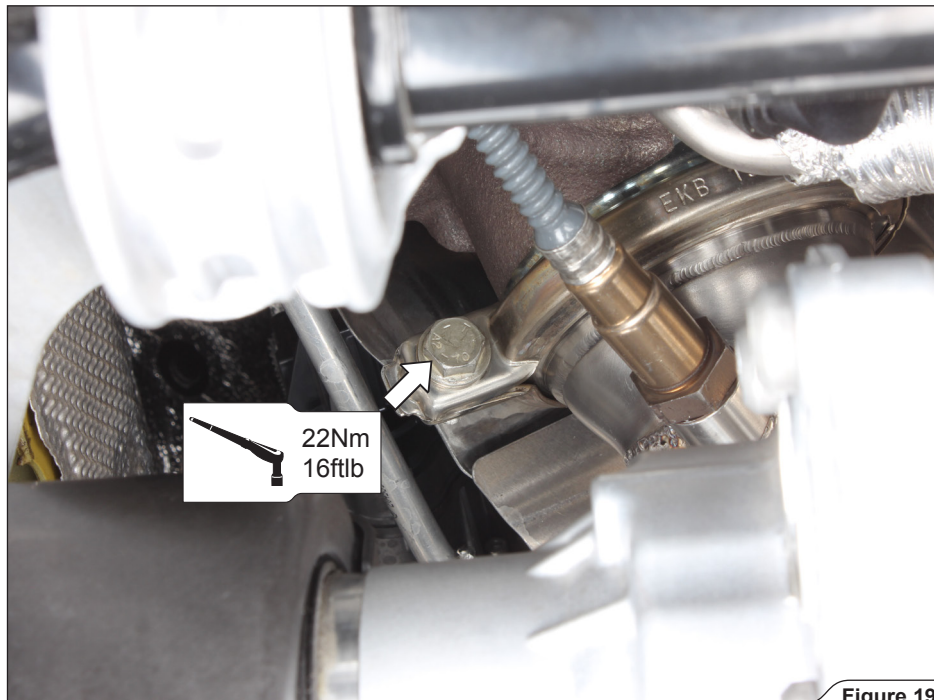

Figure 19
4. Tighten both stock downpipes - turbo chargers connection clamps (**Figure 19, 20**).